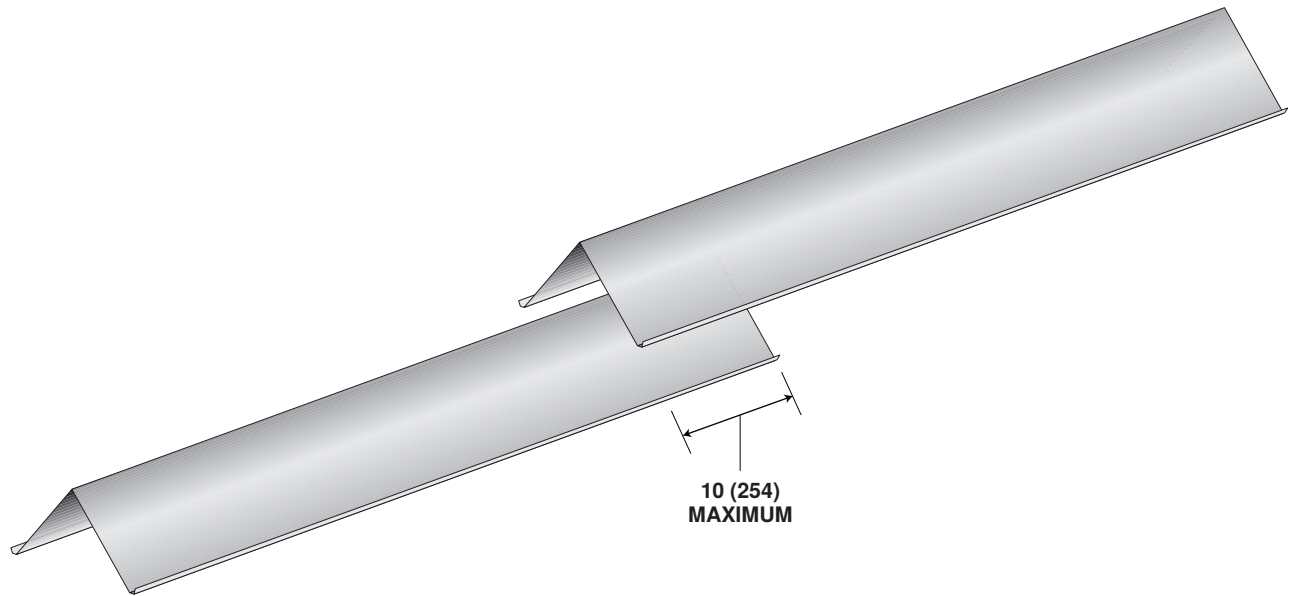

Figure 3. Overlapping Protective Shields
3. Install additional shield(s) as necessary in accordance with steps 1 and 2. Shields may be spaced, butted together, or overlapped. Shields may not be overlapped more than 10 inches (254 mm) as shown in Figure 3.